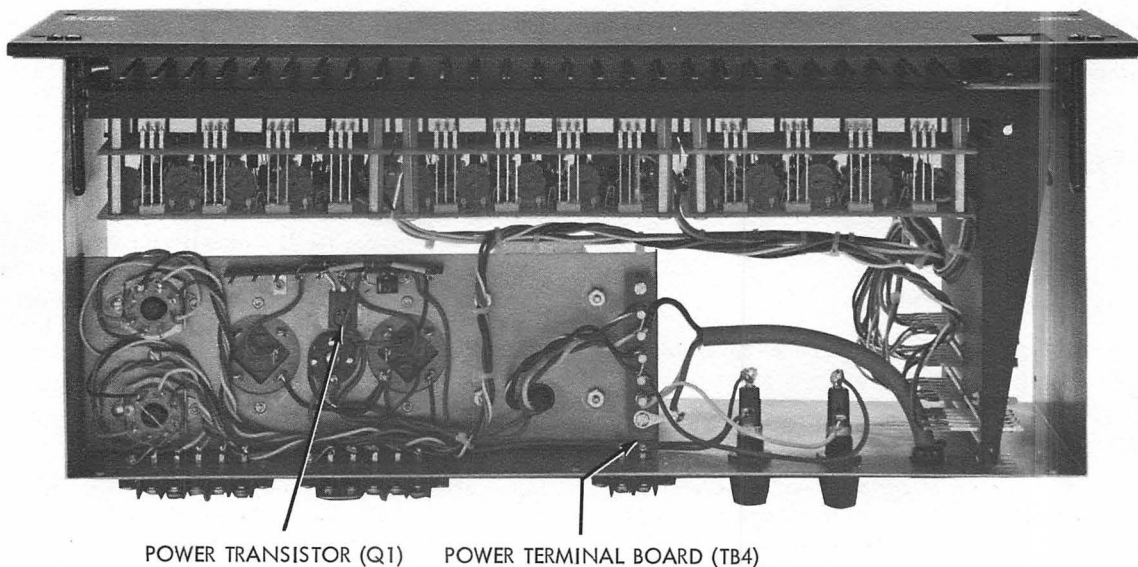
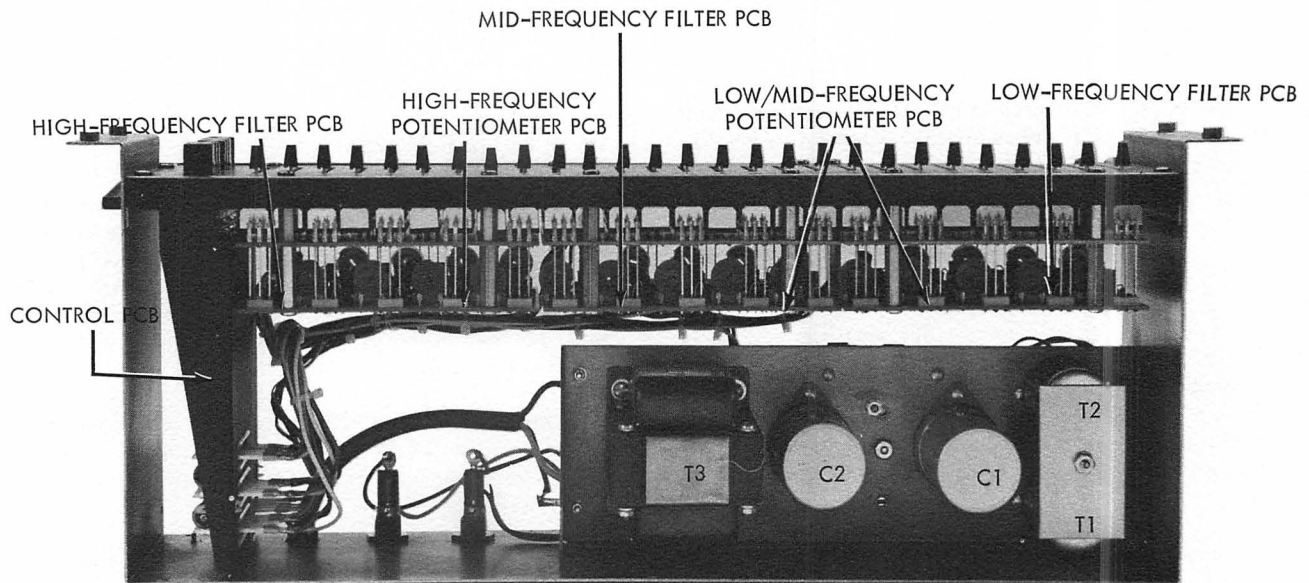

Figure 2. Bottom View 9860A, Cover Removed
Figure 7. Top View 9860A, Cover Removed
3. Remove strap "A" connecting terminals 2 and 3, and remove strap "B" connecting terminals 4 and 5; then solder strap "C" to terminals 3 and 4 (see Figures 2 and 3).
Remove seven screws securing each cover and lift off cover. Figure 2 shows interior with bottom cover removed and Figure 7 shows interior with top cover removed.
The power transistor (Q1) is located on the bottom chassis sub-assembly (see Figures 2 and 8). Use the following procedure to replace it.
5. Solder Q1 leads to terminals 4, 5 and 6 of TB5 in accordance with lead configuration shown in Figures 2 and 8.
Three potentiometer PCBs, three filter PCBs and one control PCB are located within the chassis (see Figures 7 and 8). Repair or component replacement for any PCB should be made only at the factory.